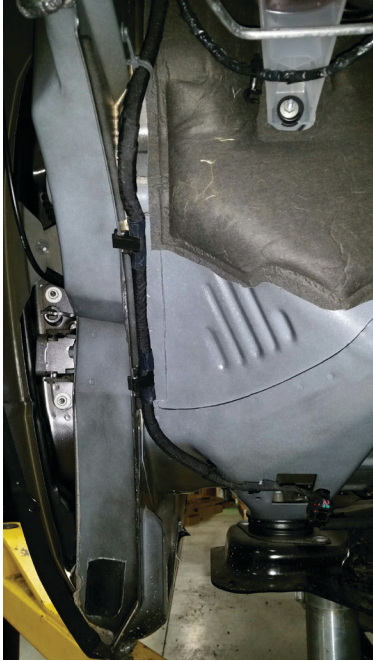

Figure 7
- F. On the passenger side, remove the harness from the pinch weld and remove the clips (fig. 7).